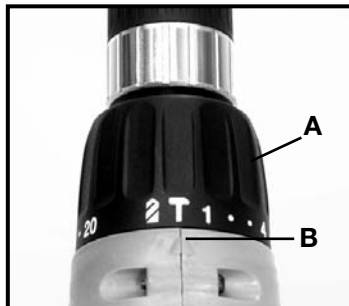

Fig. 3
The clutch unit provides twenty clutch settings, a “Drill” (solid lock-up) setting, and a hammer (impact) position. Lowest torque is available at setting #1, with maximum torque available at the “Drill” setting. The amount of output torque may be adjusted by rotating the front collar (A) Fig. 3, so that the desired torque setting is aligned with the index mark (B) Fig. 3. In general, lower torque settings are used for driving small screws and other delicate work, while higher torque settings are used for driving larger screws. The “Drill” position is used for drilling and for driving very large screws. The hammer position is used when “impacting” is needed to assist in the drilling operation such as when drilling in concrete, bricks, etc.
Drilling Concrete – Use carbide-tipped masonry bits only. Be sure drill is securely gripped in chuck and the mode selecting ring is in the “hammer” position, Fig. 3. Start drill by squeezing the trigger. Place tip of bit in contact with work and apply steady firm pressure.